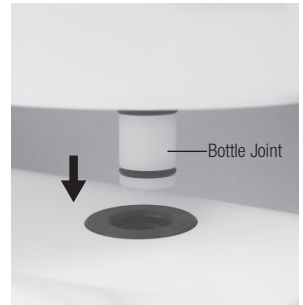

Fig.3
- 3) Close the cap of VA Bottle and insert the Bottle Joint into the Bottle Base Connector until it clicks. (Fig. 3)